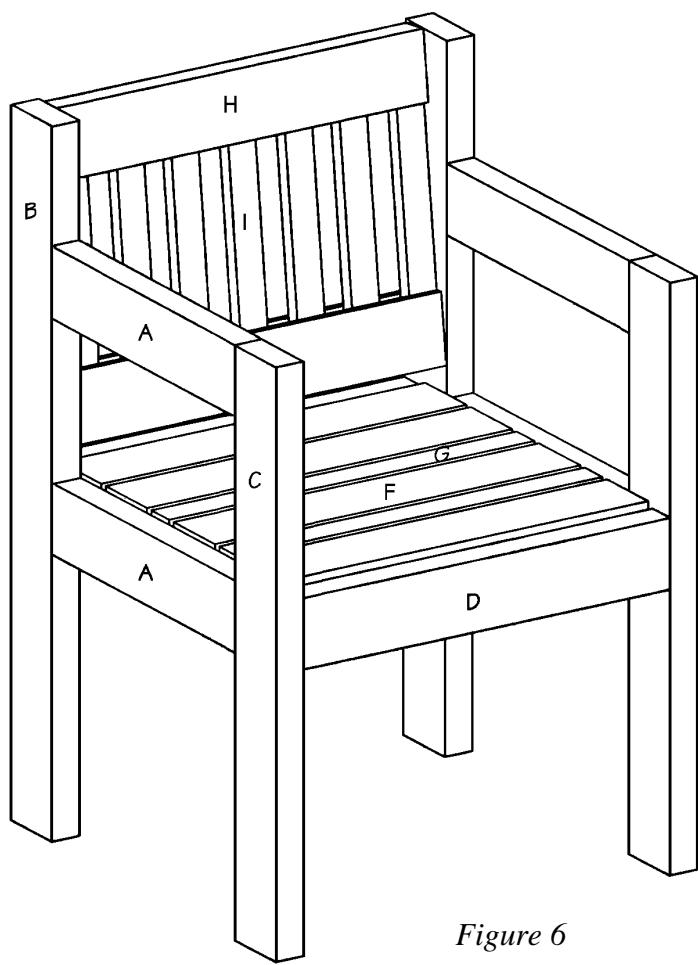

Figure 6
1. The chair seat is comprised of two different widths of wood, which are alternated. Cut four Wide Slats (F) from 1 x 4 pine, each measuring 20 inches long.
2. Cut two Narrow Slats (G) from 1 x 2 pine, each measuring 20 inches long.
3. Begin by placing a Wide Slats (F) over the seat support (E) on the front of the chair. Then place a Narrow Slat (G) next to it. Continue alternating the Wide and Narrow Slats, ending with two Wide Slats (F) at the back of the seat as shown in *Figure 6*. Adjust the spacing so that the slats are approximately 3/8-inch apart. Nail through each of the slats (F and G) into the seat supports (E). Use two 1-1/4" nails on each of the Wide Slats (F), and one 1-1/4" nail on each of the Narrow Slats (G).
5. Now you are ready to fit the back assembly between the two sides. To make the chair more comfortable, the back assembly is tilted at an angle--out at the top, and in at the bottom. The tilt angle is determined by the width of the 2 x 4 on the side assemblies. The lower edge of the back is fitted flush with the front edge of the Long Vertical Sides (B), and the upper edge of the back is fitted flush with the outer edge of the Long Vertical Sides (B), as shown in *Figure 6*. When you have the back fitted perfectly, secure the assembly with bar clamps. Screw through the Long Vertical Sides (B) into the edges of the Horizontal Backs (H) using two 3-1/2" screws on each joint.